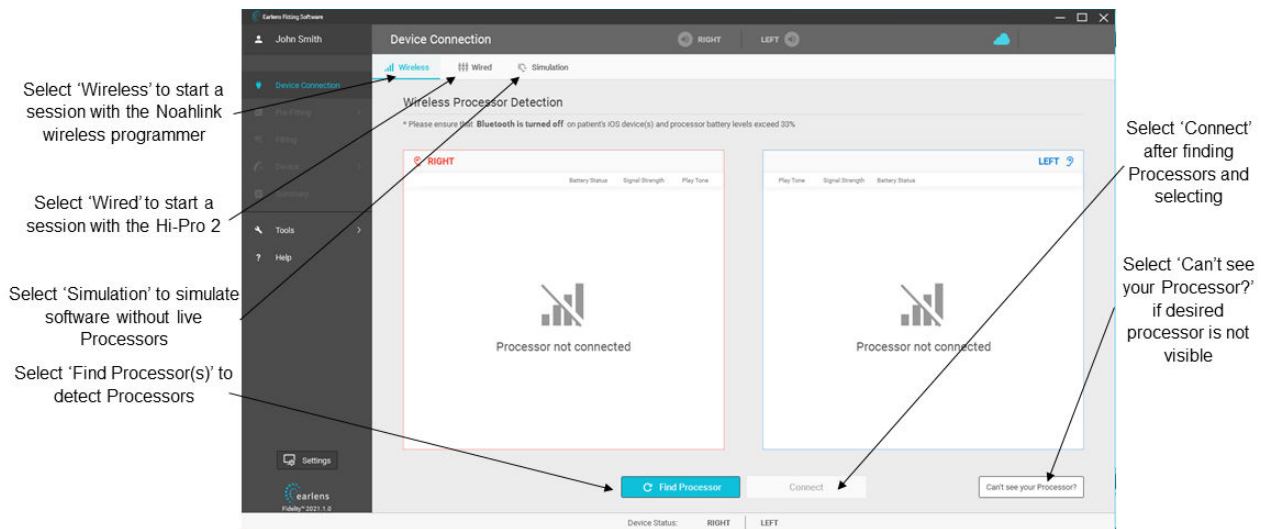

Figure 11: Device Connection screen
- **Device Connection:** Detect Processors, start a fitting session, and access Simulation mode (Figure 11).
- f. The "Device Connection" screen will open (Figure 11).
- The "Device Connection" screen will open (Figure 11).